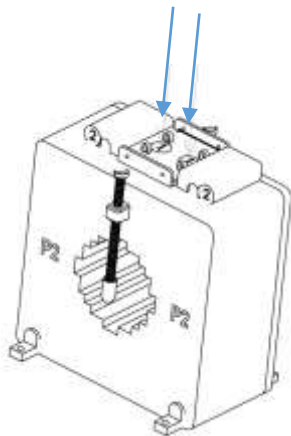
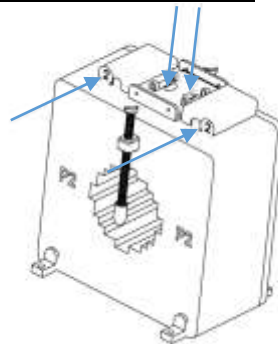
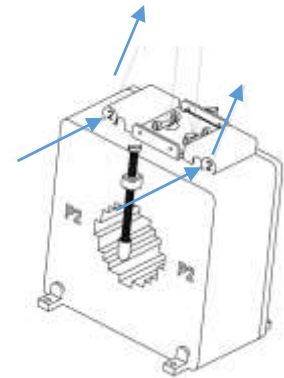
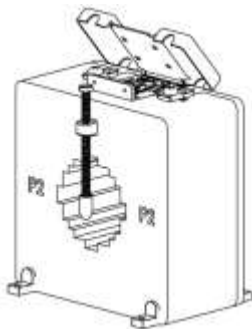

Figure 7: Direction of force acting on the cover at the point specified
Figure 8: Marking the direction of forces acting in points 1 and 2
Figure 9: Marking the direction of forces acting on the transformer cover during dismantling
Figure 10: Cover lifted up
2. Apply pressure to point 1, using fingers - see Figure 7. There will be a sag in the cover and just in that moment start applying force to the point No. 2 as shown in Fig. 8, and at the same time apply another pressure to points 2 in direction shown in Fig. 9. Before a condition shown in Fig. 10 is achieved